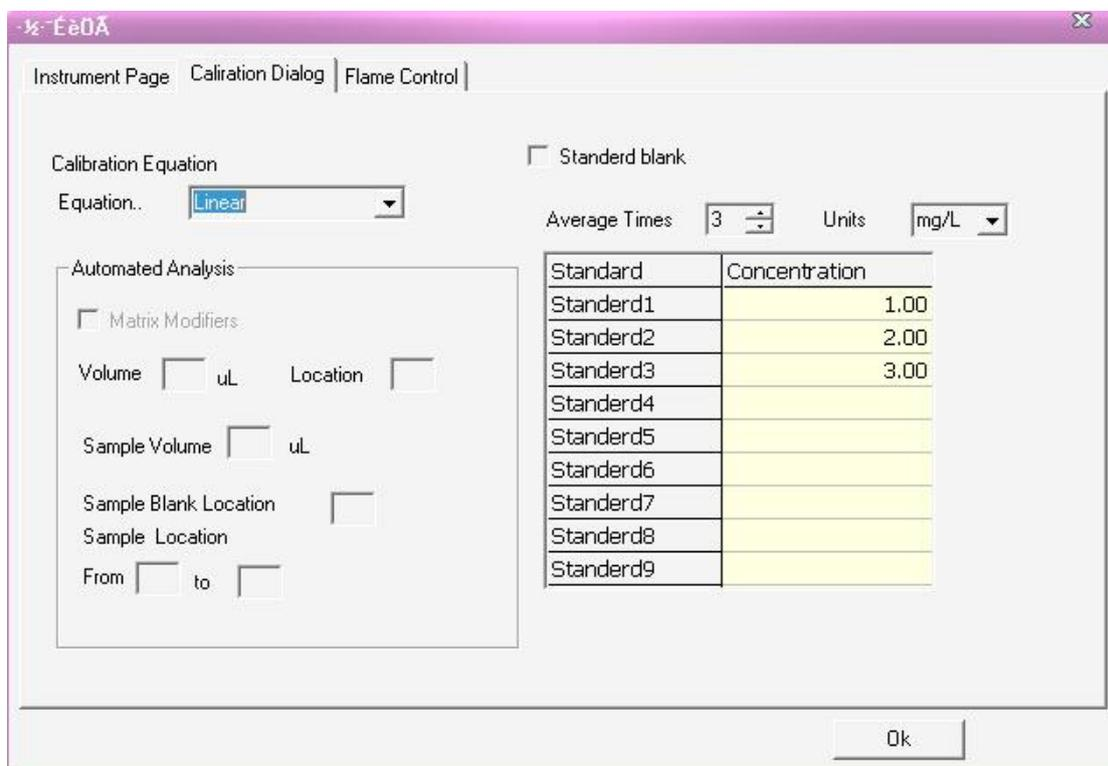

Figure 6-8
9. Press **【 Method Editor 】** to open the “Calibration Dialog” window. select the “Linear” in the “Equation”, input corresponding information, figure 6-8